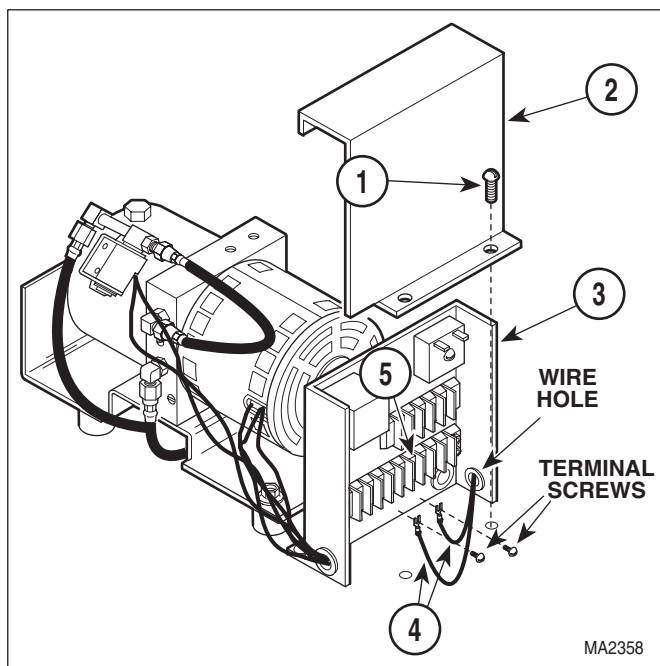
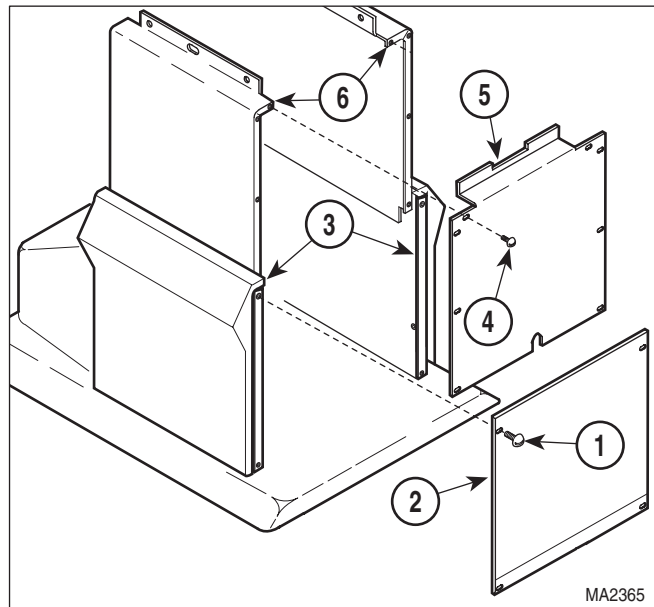
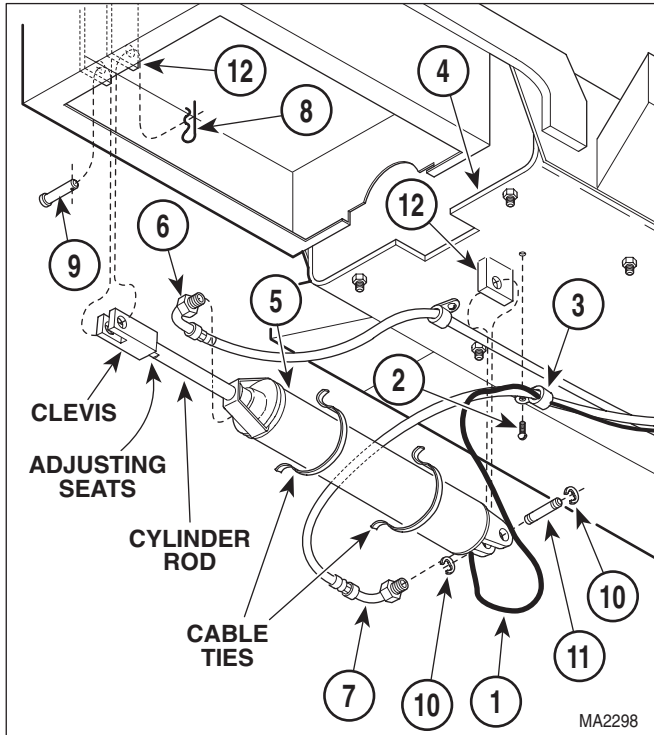

Figure 4-21. Foot Cylinder Wire Disconnection / Connection
Figure 4-22. Shrouds Removal / Installation
Figure 4-23. Foot Cylinder Removal / Installation
- (1) If possible, raise FOOT UP function all the way up.
- (2) Unplug table power cord from outlet.
- (3) Remove motor cover assembly (Refer to para 4.2).
- (4) Remove two screws (1, Figure 4-21) and control cover (2) from control panel (3).
- (5) Loosen two terminal screws; then tag and disconnect two foot cylinder wires (4) from terminal block (5).
- (6) Pull foot cylinder wires (4) out thru wire hole.
- (7) Remove four screws (1, Figure 4-22) and front outer shroud (2) from left and right hand outer shrouds (3).
- (8) Remove eight screws (4) and front inner shroud (5) from left and right hand inner shrouds (6).
- (9) Cut cable ties securing foot cylinder wire harness (1, Figure 4-23).
- (10) Remove screw (2) and wire clip (3) securing foot cylinder wire harness (1) to seat weldment (4).
- (11) Cut cable ties securing hose assemblies to foot cylinder (5).
- (12) Disconnect hose assembly (6) from foot cylinder (5).
- (13) Disconnect hose assembly (7) from foot cylinder (5).
- (14) Support foot section of table top and then remove hitch pin clip (8), clevis pin (9), two E-rings (10), clevis pin (11), and foot cylinder (5) from brackets (12).
- (1) Install foot cylinder (5, Figure 4-23) on brackets (12) and secure with clevis pin (11), two E-rings (10), clevis pin (9), and hitch pin clip (8).
- (2) Connect hose assembly (7) to foot cylinder (5).
- (3) Connect hose assembly (6) to foot cylinder (5).
- (4) Secure hose assemblies (6 and 7) to foot cylinder (5) with cable ties.
- (5) Secure foot cylinder wire harness (1) to seat weldment (4) with wire clip (3) and screw (2).
- (6) Feed foot cylinder wires (4, Figure 4-21) thru wire hole in control panel (3).
- (7) Connect two foot cylinder wires (4) to terminal block (5) and secure with two terminal screws.
- (8) Install control cover (2) on control panel (3) and secure with two screws (1).
- (9) Plug table power cord into outlet.
- (10) Raise FOOT UP function all the way up.
- (11) If foot section *is not* level with seat section when FOOT UP function is completely raised, perform steps 12 thru 14. See Figure 4-23. If foot section *is* level when the FOOT UP function is completely raised, go to step 17.
- (12) Lower FOOT DOWN function down until cylinder rod is extended halfway.
- (13) Place a wrench on adjusting seats of cylinder rod and use it to rotate cylinder rod to adjust clevis up or down as necessary.
- (14) Repeat steps 10 thru 14 until foot section is level with seat section when FOOT UP function is completely raised.
- (15) Install any cable ties removed during removal.
- (16) Install front inner shroud (5, Figure 4-22) on left and right hand inner shrouds (6) and secure with eight screws (4).